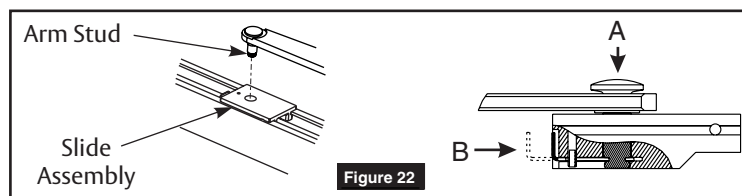

Figure 22
5. Insert stud on arm into slider in track by pressing clip on backside of slider onto stud. (Figure 22)